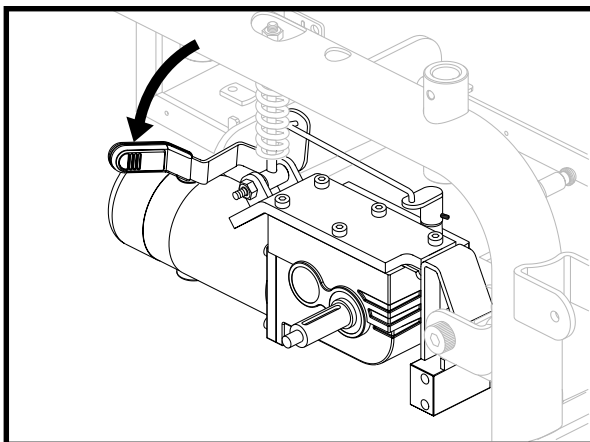

Figure 10. Freewheel Mode (Drive Disengaged)
1. Push the manual freewheel lever on each motor down for freewheel mode (drive disengaged). See figure 10.